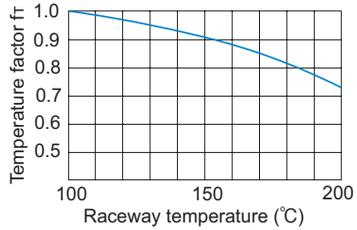

Fig.1 Temperature Factor ( $f_t$ )
- $f_T$  : Temperature factor (see Fig.1 on A-627)
If the temperature of the environment surrounding the operating Flat Roller exceeds 100 °C , take into account the adverse effect of the high temperature and multiply the basic load ratings by the temperature factor indicated in Fig.1.